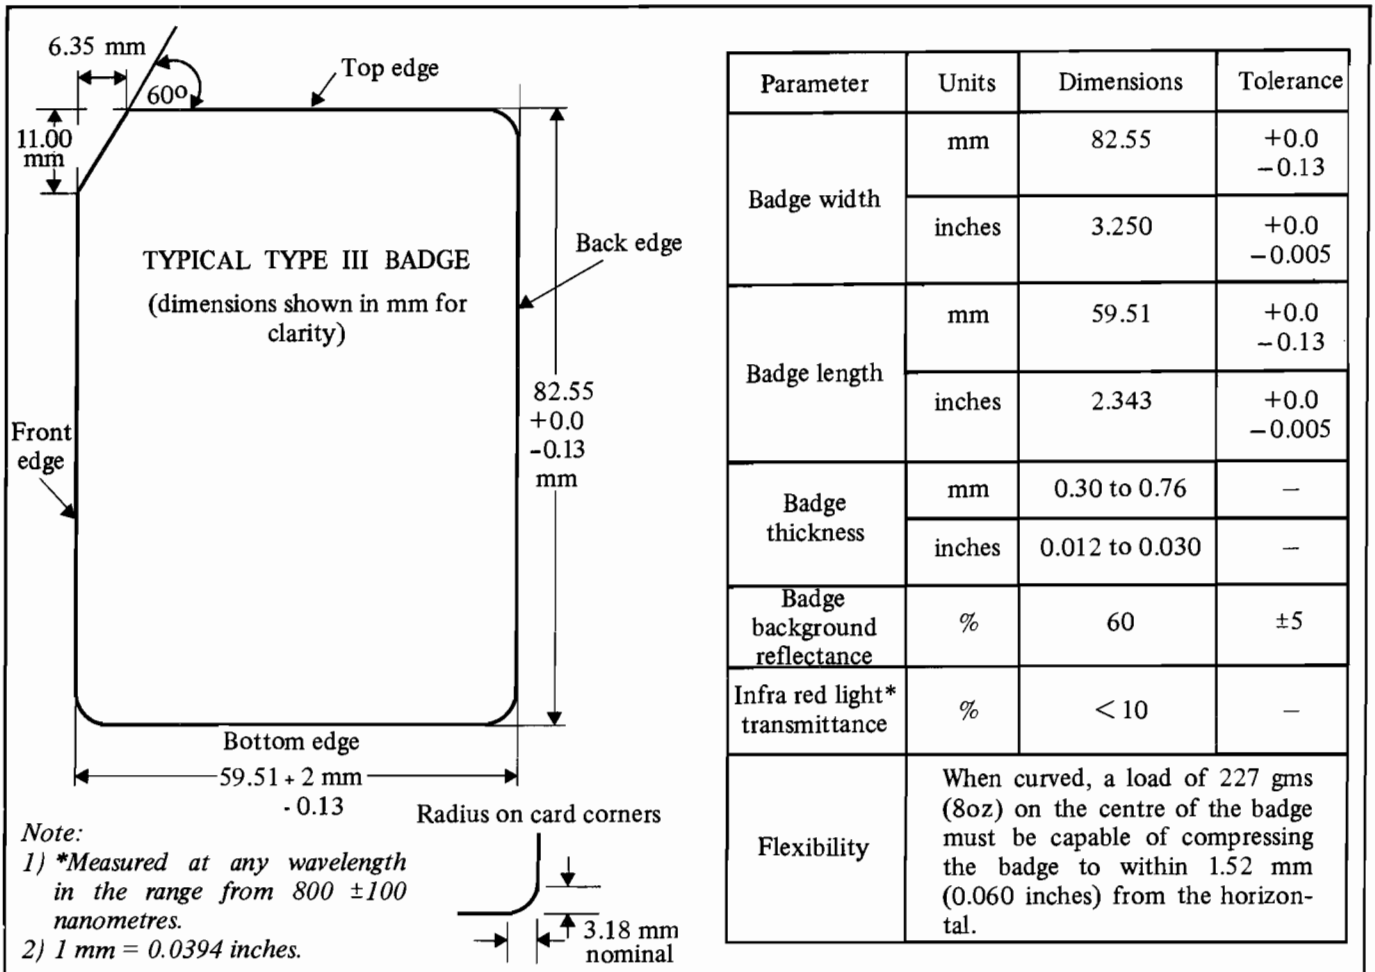

Figure 6-16 Type III Badge Dimensions
The dimensions of the badges are listed and depicted in figure 6-16.
- 1) The badge must be uniformly thick with smooth edges and respect the measurements contained in figure 6-16.
The dimensions listed in figure 6-16 may be used to indicate to your supplier the dimensions of Type III Badges. Potential suppliers are listed in table 6-6.